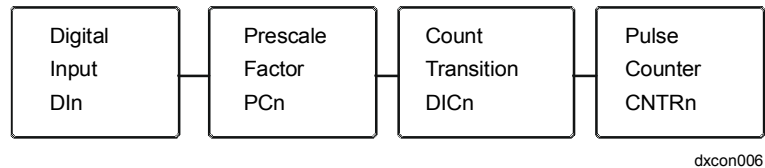

Figure 6: Digital Input Transitions
2. On the SX Tool, the digital input status (DIn), the count transition status (DICn) and the pulse counter values can be read under General Module at the Items given in Figure 6.